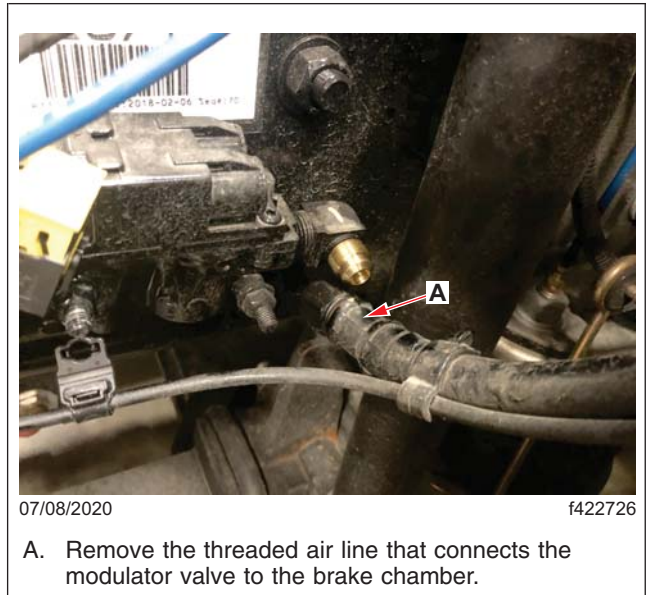

Fig. 8, Removing the Threaded Air Line
6. Use a 7/8-inch wrench to remove the threaded air line that connects the modulator to the brake chamber. See Fig. 8.